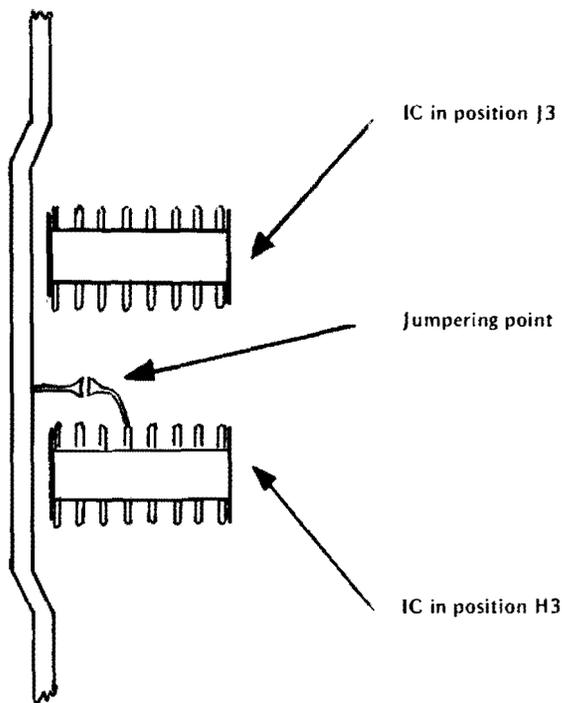

Figure 4-1 Location of Jumpering Point on PCB
4.3.2 ADJUSTMENT OF 2-MINUTE/90-SECOND GAME TIME OPTION: Remove the PCB from inside the cabinet by unplugging its edge connector and sliding the board all the way out of its guides. Then find the two PC traces which comprise the jumpering point located between the IC devices in board positions H3 and J3 (see Figure 4-1). If these two stripes are left *not* connected, the maximum elapsed game time per play will be 90 seconds; if they *are* connected by soldering, the maximum elapsed game time per play will be 2 minutes.